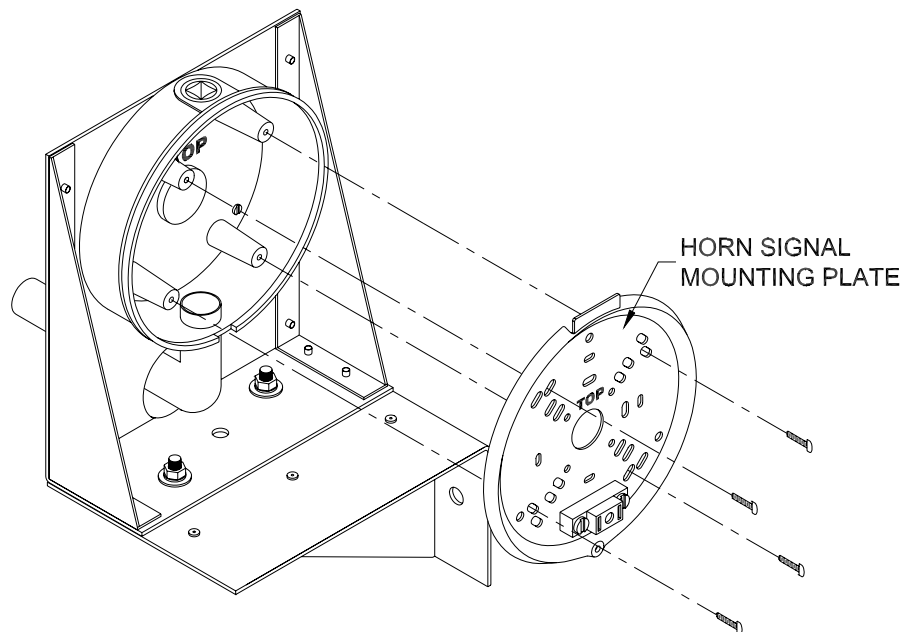

Figure 10 Horn Signal Mounting Plate Attachment
13. Align the horn signal mounting plate with the back box so that the word “TOP” on the horn signal mounting plate and the back box should be oriented in the same direction and the screw hole on the bottom edge of the horn signal mounting plate should be directly over the gap in the back box gasket as seen in figure 10.